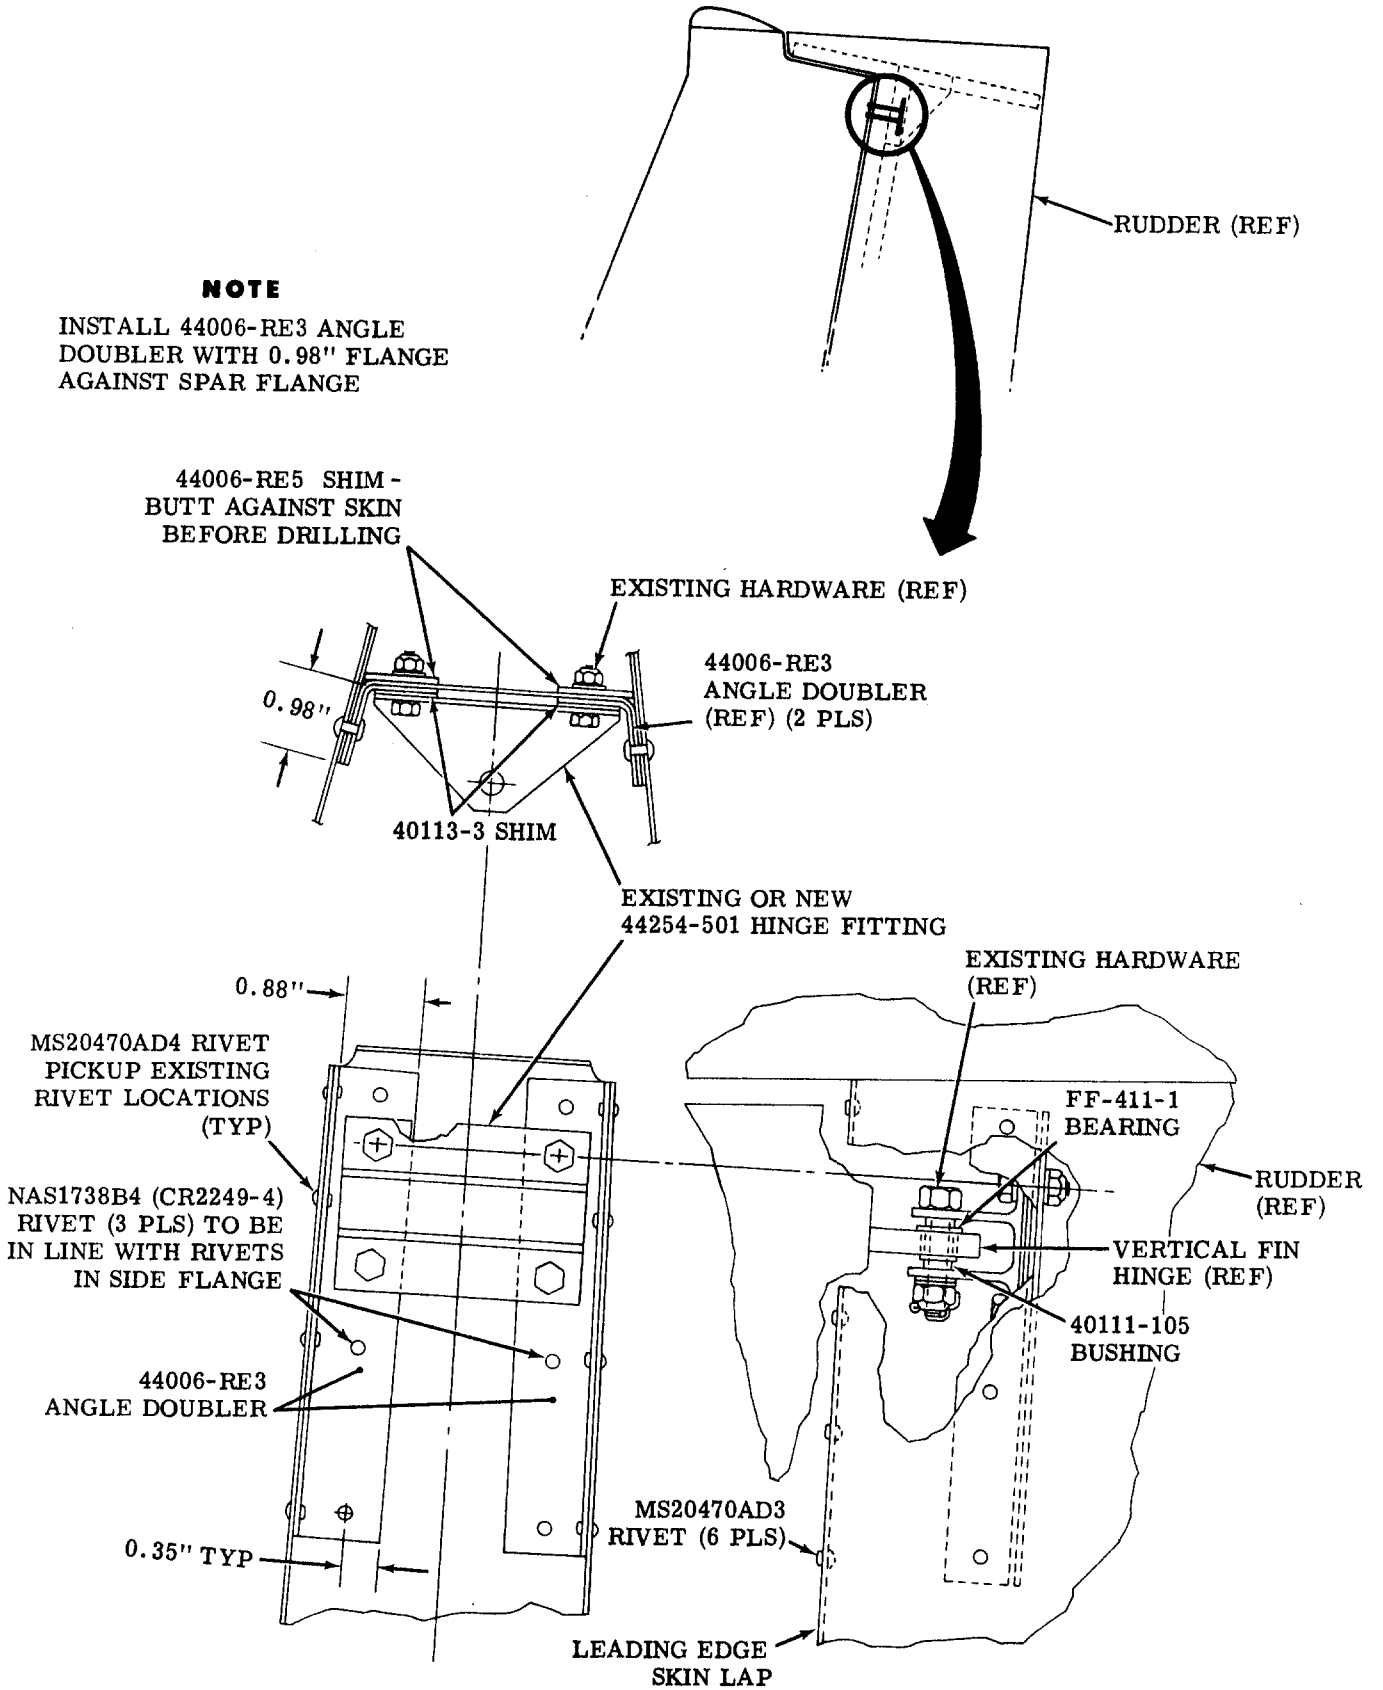

Figure 1.
- a. Remove upper four (4) rivets, attaching skin to spar, from left and right side of rudder assembly (total of eight (8) rivets).
- b. Remove upper six (6) rivets from rudder assembly leading edge skin lap.
- d. Locate, drill and install 44006-RE3 angle doubler (2 places) on rudder assembly (see Figure 1.).
- f. Install existing or new 44254-501 hinge fitting, 44006-RE5 shim (2 places) and 40113-3 shim (2 places) using existing hardware (see Figure 1.).
12. Install FF-411-1 bearing in upper vertical fin hinge and ream hole in new bearing to 0.317/0.318-inch (see Figure 1.).
20. Reinstall rudder assembly on airplane as outlined in the Airplane Maintenance Manual, Section VII, using existing hardware and 40111-105 bushing (see Figure 1.).